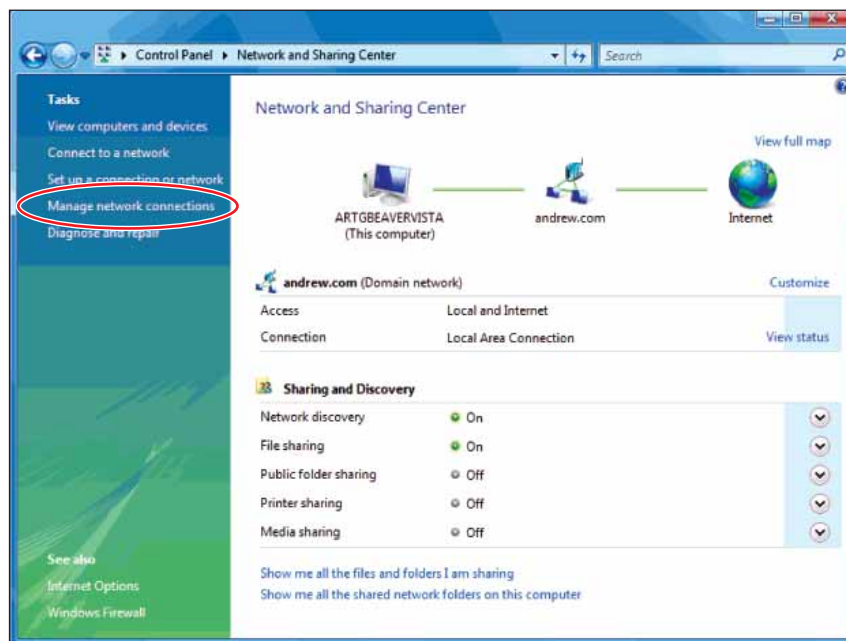

Figure 15-3. Selecting Manage Network Connections.
3. Select **Manage Network Connections** link (Figure 15-3).